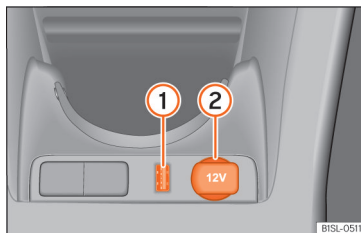

Fig. 132 Front centre console: 12-volt power outlet on the storage compartment and USB interface.
The 12 volt socket is found in the storage compartment at the front of the centre console »» Fig. 132 ② and only functions when the ignition is switched on.